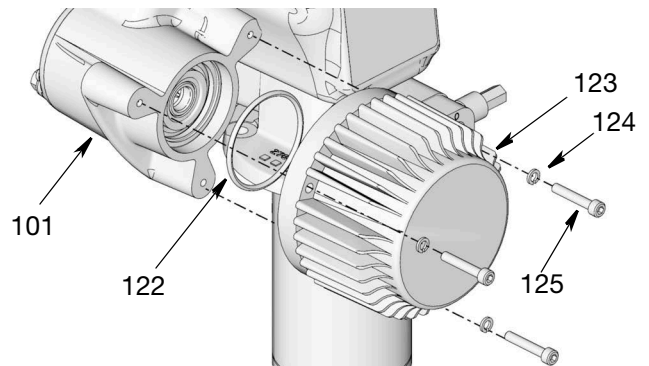

FIG. 58
- Remove the screws (125) and the washers (124) holding the motor (123) to the gear box housing (101). Remove motor. Verify the o-ring (122) was removed with motor. (FIG. 58)